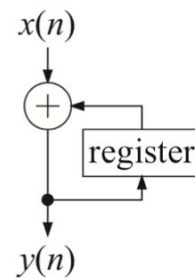

Figure 3. Signal-flow graph of an accumulate algorithm.
5. The algorithm shown in Figure 3 accumulates an even number of samples  $N$  by adding the samples in a sequence  $y(n) = x(n) + y(n-1)$ ;  $n = 0, 1, \dots, N-1$ . The register is reset at  $n = 0$ . The algorithm should be optimized for low energy consumption using algorithm transformations and supply voltage scaling. Assume a constant capacitive load of adders and registers in the implementations, and that the adder and the register hardware operate at a common supply voltage. In a direct implementation of the algorithm in Figure 3 the minimum supply voltage is  $V_{DD0} = 1.5$  V.
- Assume the same supply voltage  $V_{DD0}$  is used in direct implementations of the original algorithm in Figure 3 and the resulting algorithm of c). Estimate the relative energy consumption of the two implementations. (2 p)
- Minimize the energy consumption of resulting algorithm of c) by scaling the supply voltage. Assume the propagation delay  $t_p$  is proportional to  $V_{DD}(V_{DD}-V_T)^{-1.5}$  where  $V_T = 0.45$  V. Estimate the energy savings after supply voltage scaling relative to a direct implementation of the original algorithm in Figure 3. (4 p)